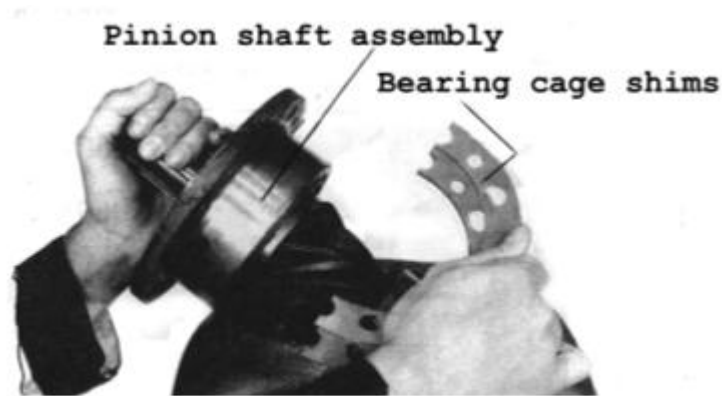

Fig 42
- * Remove the pinion shaft assembly from the carrier (Fig. 42) on the next page..